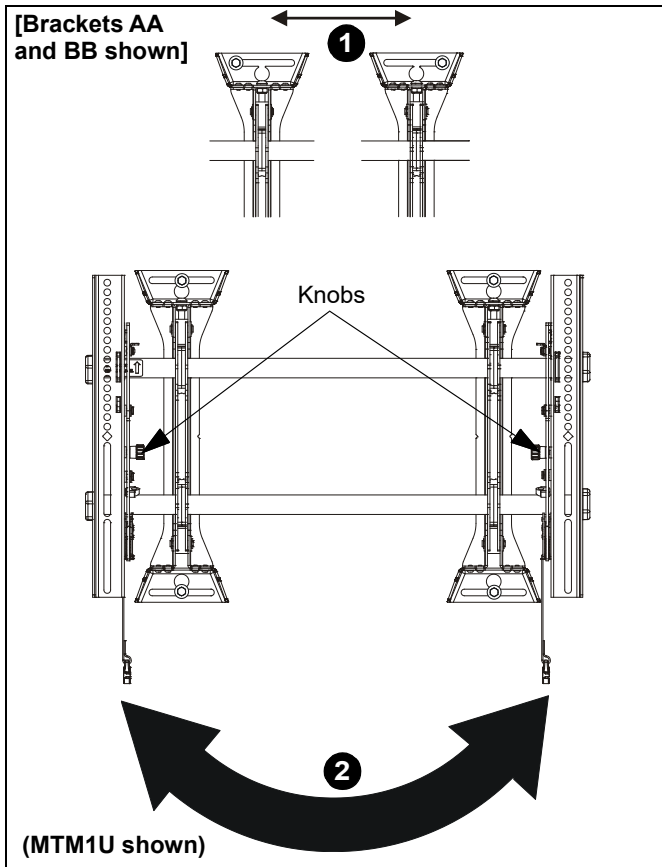

Figure 12
1. The wall brackets may be adjusted side to side at the point of attachment. (See Figure 12)
2. The location of the left and right interface brackets (Y and Z or AA and BB) may be switched, with the knobs on the MTM1U/LTM1U interface brackets (AA and BB) facing the inside of the mount. (See Figure 12)